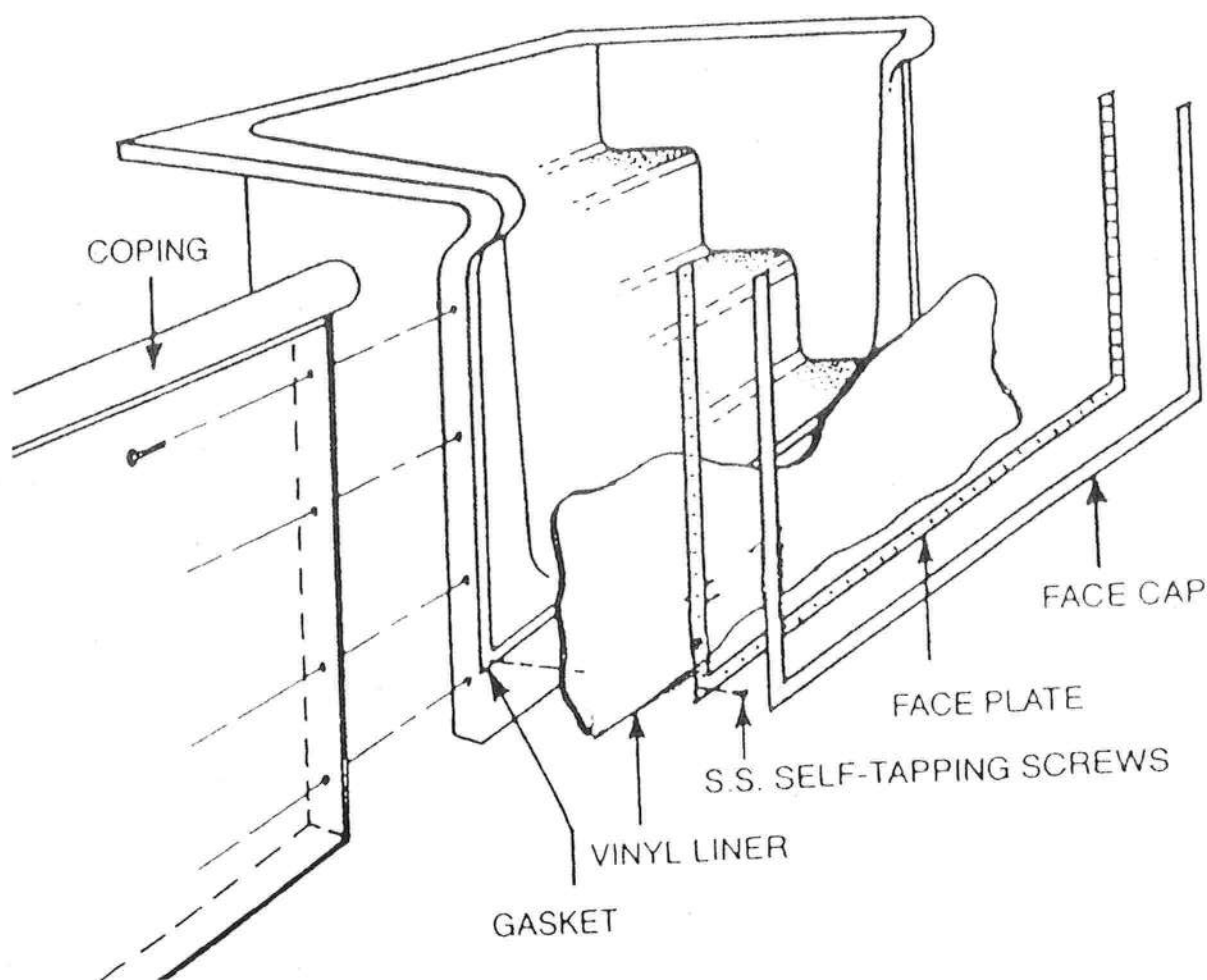

Figure 24: Step Faceplate Installation
13. When the water is 6" deep in the shallow end, remove the vacuum(s) and the sand bags. Install the liner bead in the liner track. If steps are used, install the step faceplate now (step Figure 24). (Insert Figure 24 from page 16 of the existing manual.)
15. DO NOT REMOVE THE VACUUM(S) WITH LESS THAN 6" OF WATER IN THE SHALLOW END AND DO NOT ALLOW THE VACUUM(S) TO RUN WITH MORE THAN 12" OF WATER IN THE SHALLOW END. IF THE VACUUM(S) ARE SHUT OFF FOR ANY REASON BEFORE THE WATER IS 6" DEEP IN THE SHALLOW END, THE WATER MUST ALSO BE SHUT OFF UNTIL THE VACUUM IS RESTORED.